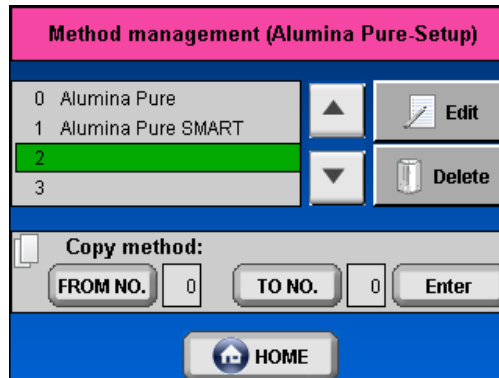

Figure 40: Determine destination.
3. Select a free space in the dropdown menu (max. 30 methods). – Figure 40.